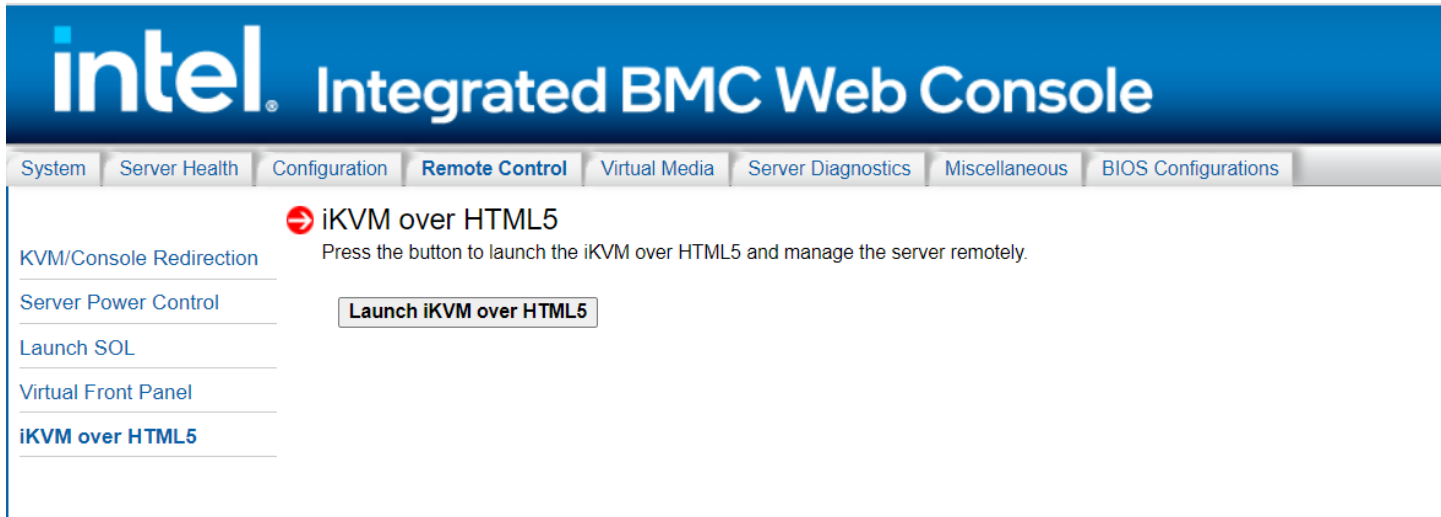

Figure 83. iKVM Over HTML5 Page
**Note:** A Remote Management Module add-in card is required in the remote system, otherwise the launch button is grayed-out. See Figure 83 or Figure 84 for more details.